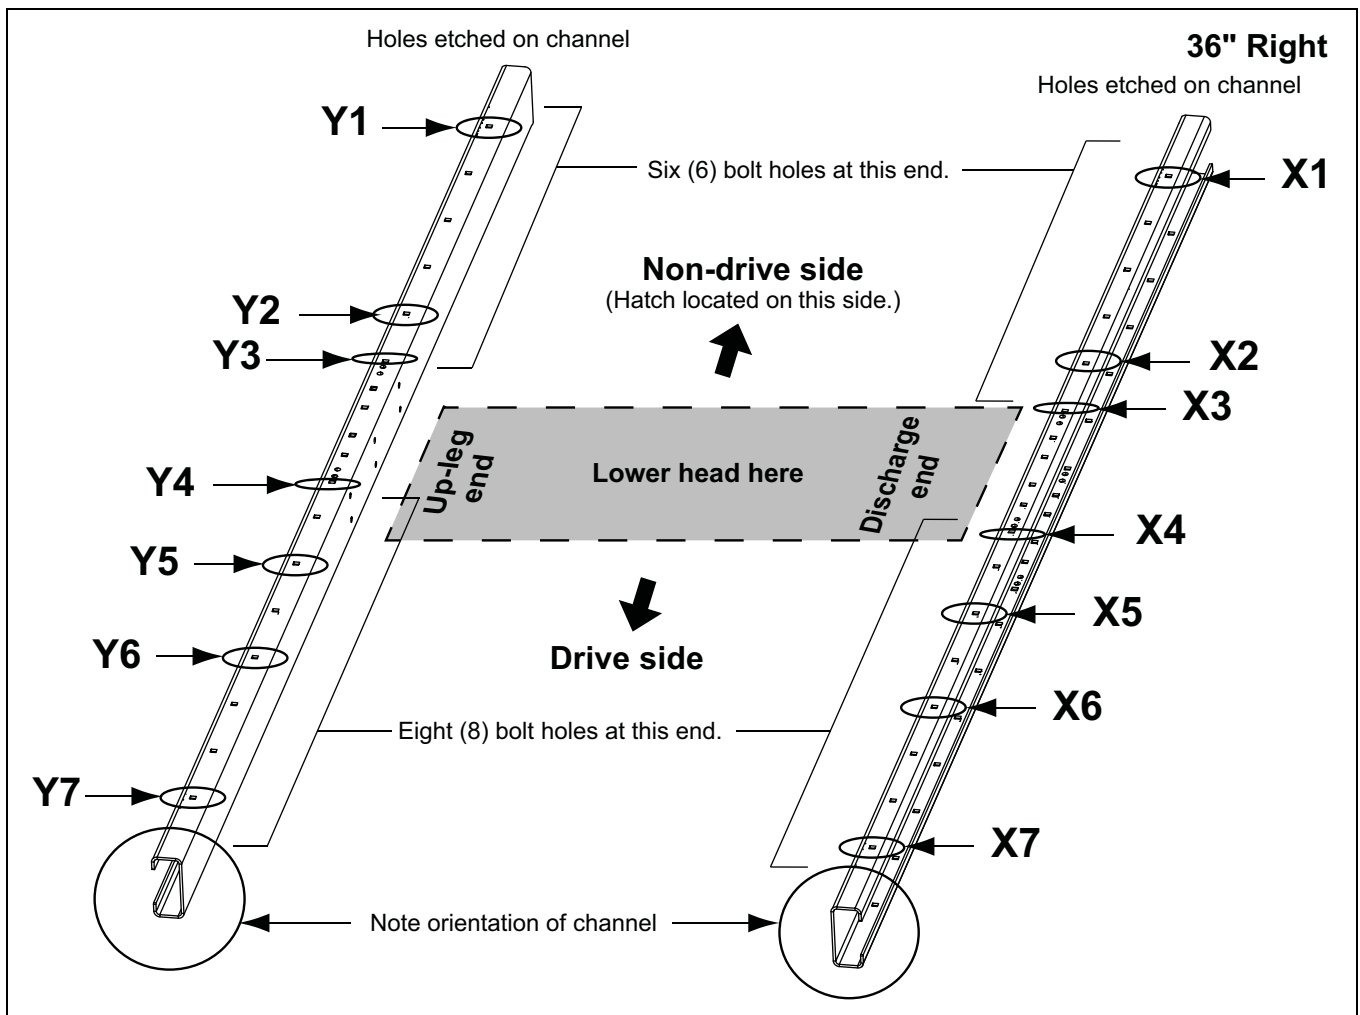
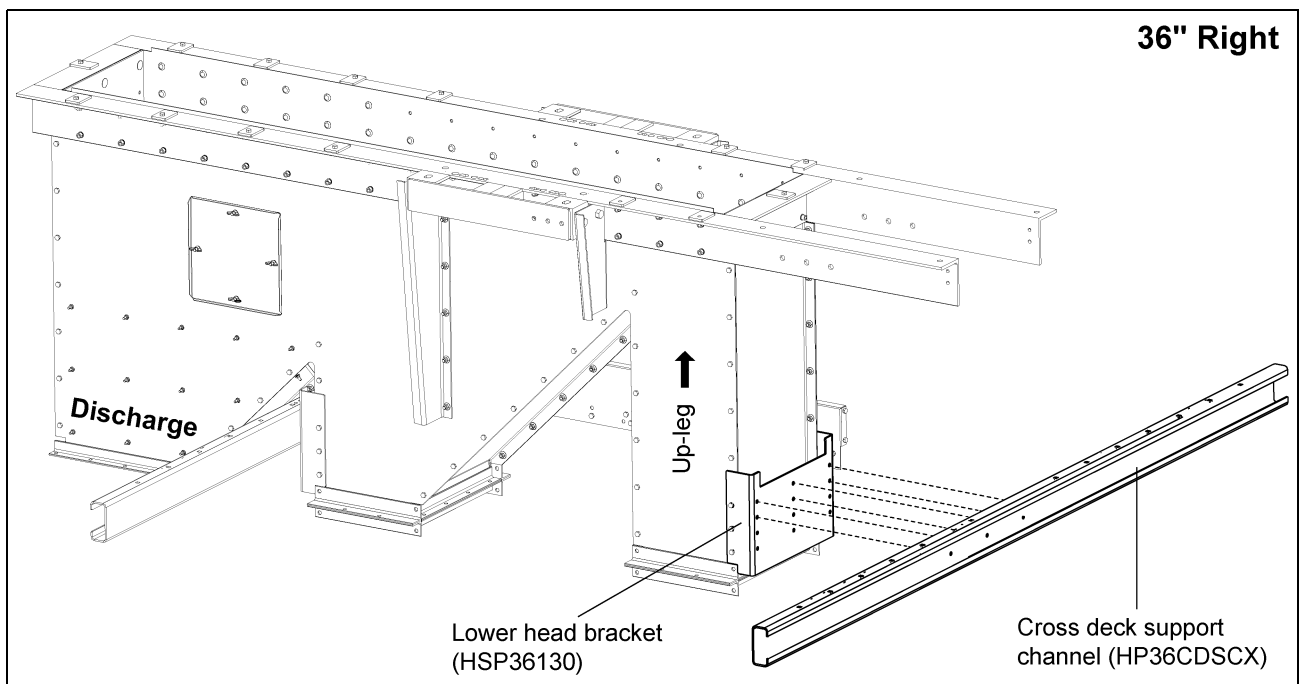

Figure 8D 36" Right Side Drive Channel Position
Figure 8E
(See Figure 8D on Page 53.)
3. Attach cross deck support channels (HP36CDSCX) to the top-most set of holes of the lower head brackets (HSP36130) using 3/8" x 1" bolts and nuts and torque properly. (See Figure 8E on Page 53.)
- *NOTE:** *The channels MUST be oriented as shown in Figure 8D and Figure 8E on Page 53 in order for the decking and subsequent assembly to be done correctly.*